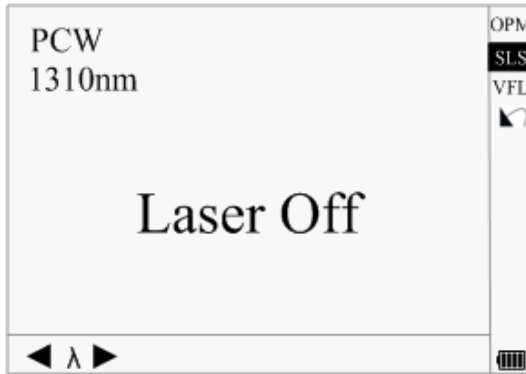

Figure 4-11. Stabilized Laser Source
- Enter PM/LS interface as described in 3.4.3.2.7. Use [▲] and [▼] to highlight **SLS**, and press [Enter] to enter SLS interface as shown in Figure 4-11.